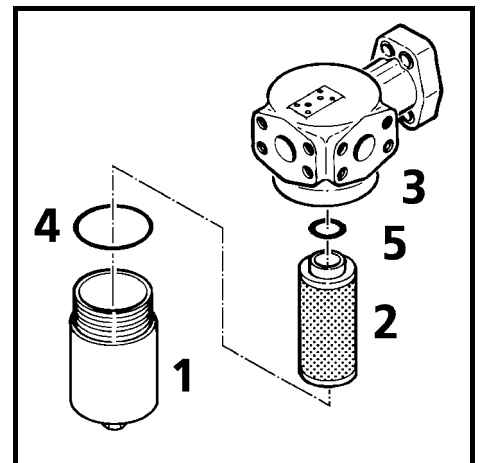

Fig. 23
- Remove the filter housing 1 (Fig. 23),